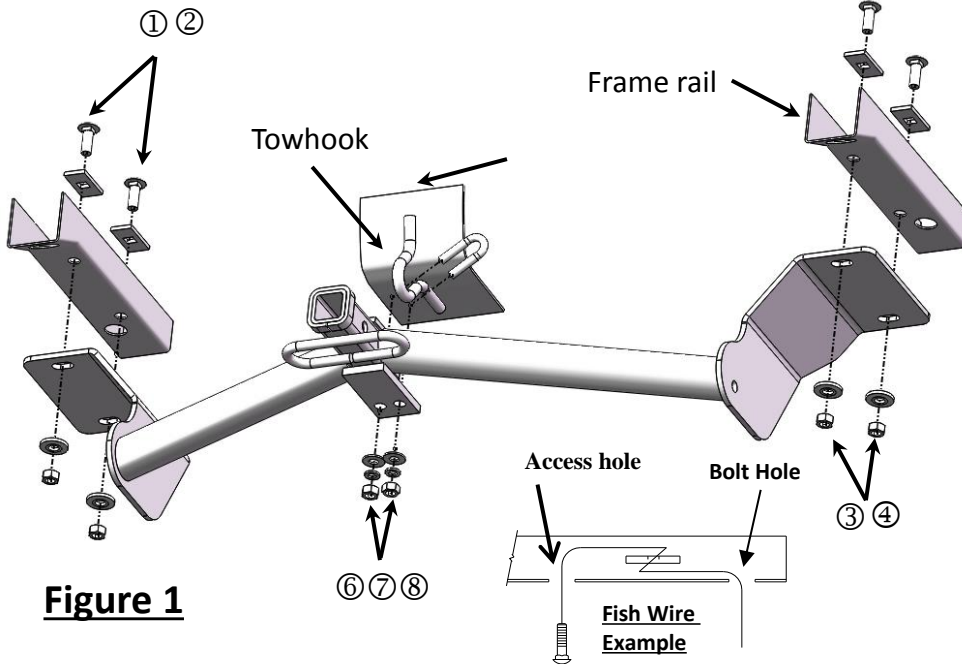

Figure 2
- Lower exhaust** - Remove the rubber isolators from the exhaust at the rear of the vehicle, (figure 2) both sides. It may be necessary to remove the isolator forward of the rear axle. Spraying a lubricant or soapy water on the metal hanger rod and the rubber isolator eases removal.